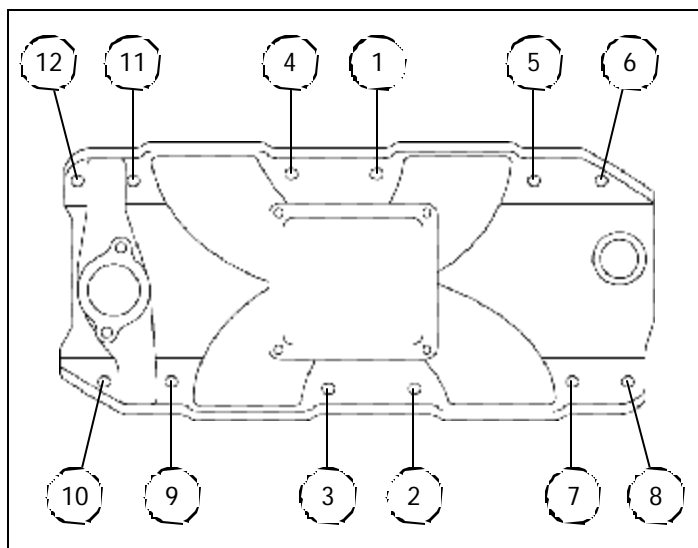

Figure 1 - 396-502 C.I.D. Chevrolet Bolt Torque Sequence
- MANIFOLD TORQUE: Torque the manifold bolts to 25 ft./lbs in small, even steps, following the recommended torque sequence (See Fig. 1). If you cannot fit a torque wrench on some of the bolts, use a small box end wrench to avoid over tightening.